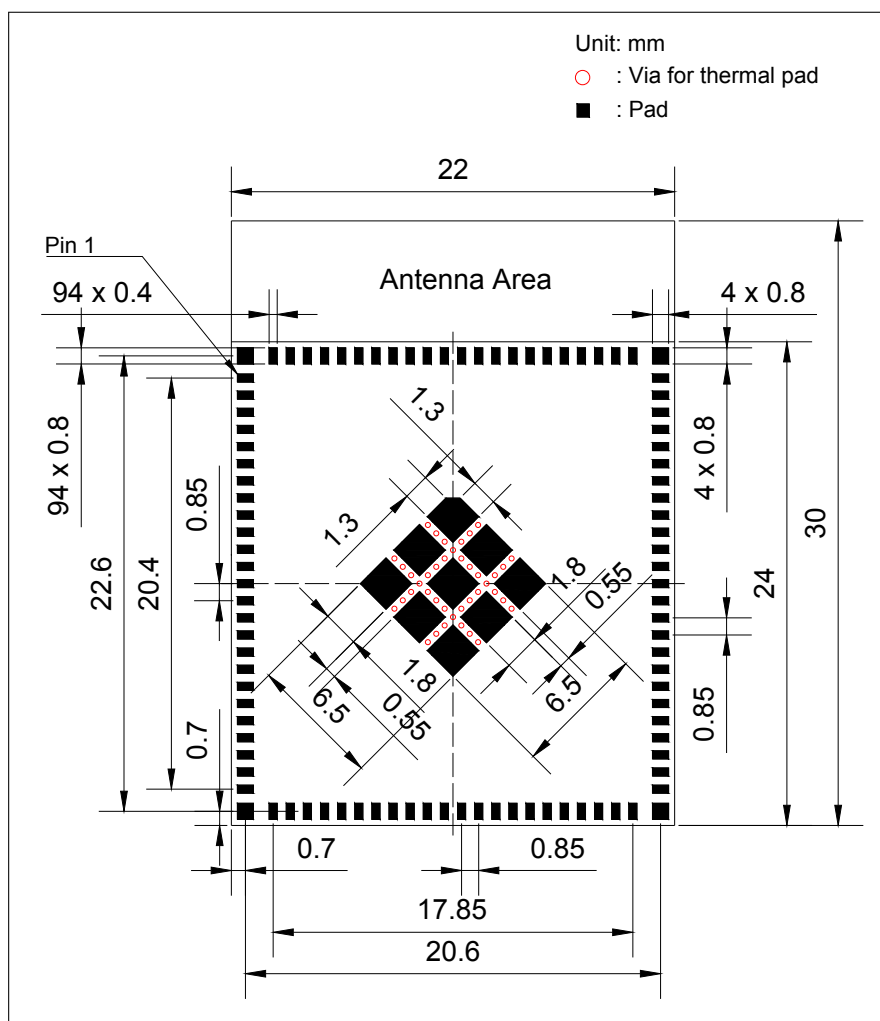
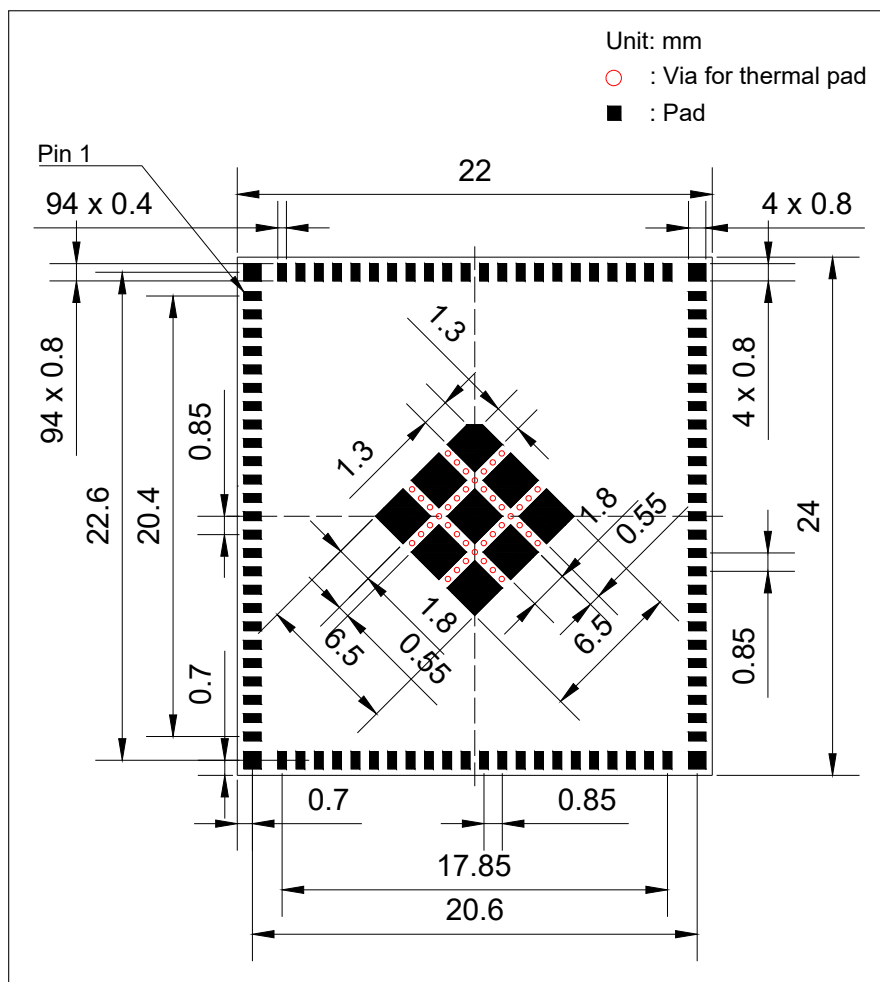

Figure 11-1. ESP32-S31-WROOM-3 Recommended PCB Land Pattern
Figure 11-2. ESP32-S31-WROOM-3U Recommended PCB Land Pattern
- Figures for recommended PCB land patterns with all the dimensions needed for PCB design. See Figure 11-1 *ESP32-S31-WROOM-3 Recommended PCB Land Pattern* and Figure 11-2 *ESP32-S31-WROOM-3U Recommended PCB Land Pattern*.